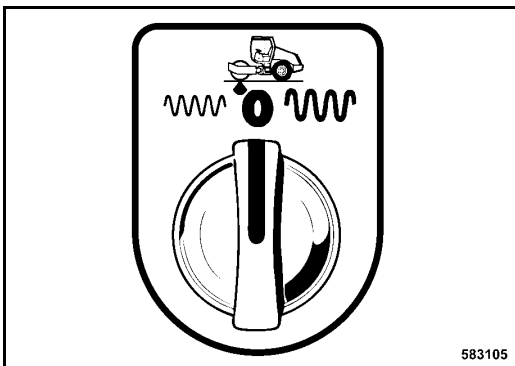

Fig. 68
- After the end of work switch the rotary switch for vibration amplitude pre-selection (Fig. 68) to position "O".